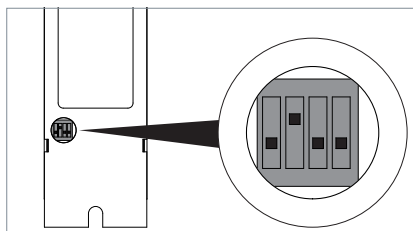

Fig. 25: DIP switch position for the Simple Group Control function.
- ▶ Set the DIP switch no. 2 to the "ON" position, see Fig. 25.